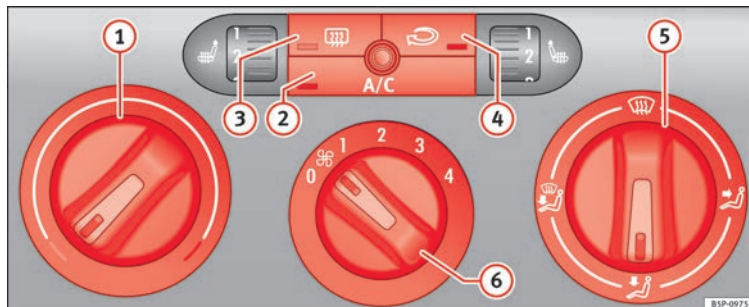

Fig. 116 On the dash panel: Climate controls.
- Turn the temperature selector » Fig. 116 (1) clockwise to select the desired temperature.
Air recirculation mode » **Fig. 116**   prevents strong odours or contaminated air from